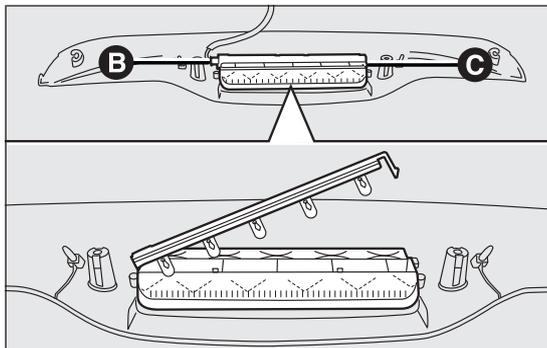

fig. 120
- disconnect the electrical connector B fig. 120;
- press the retaining device C fig. 120 and open the bulb holder;